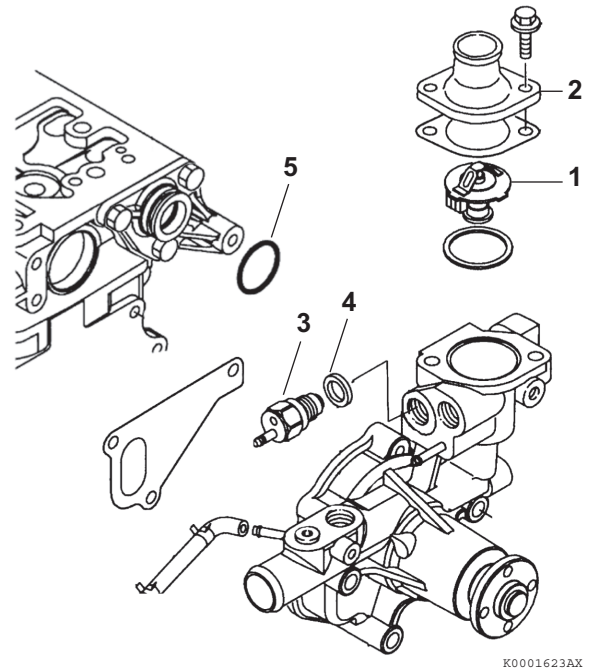

Figure 8-13
1. Reinstall the thermostat (**Figure 8-13, (1)**) and a new O-ring.
2. Reinstall the thermostat cover (**Figure 8-13, (2)**) and a new gasket. Tighten the thermostat cover bolts.
3. Reinstall the temperature switch (**Figure 8-13, (3)**) and a new gasket (**Figure 8-13, (4)**).
1. Position the engine coolant pump on the engine and install a new gasket. Install a new special O-ring (**Figure 8-13, (5)**) on assembly between the engine coolant pump and the joint.